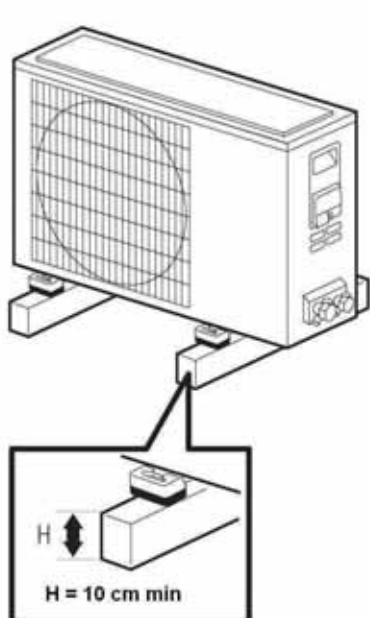

Fig. 16
- Assemble the rubber feet under the outdoor unit and place the unit on a rise that is at least 10 cm, as in fig. 16.